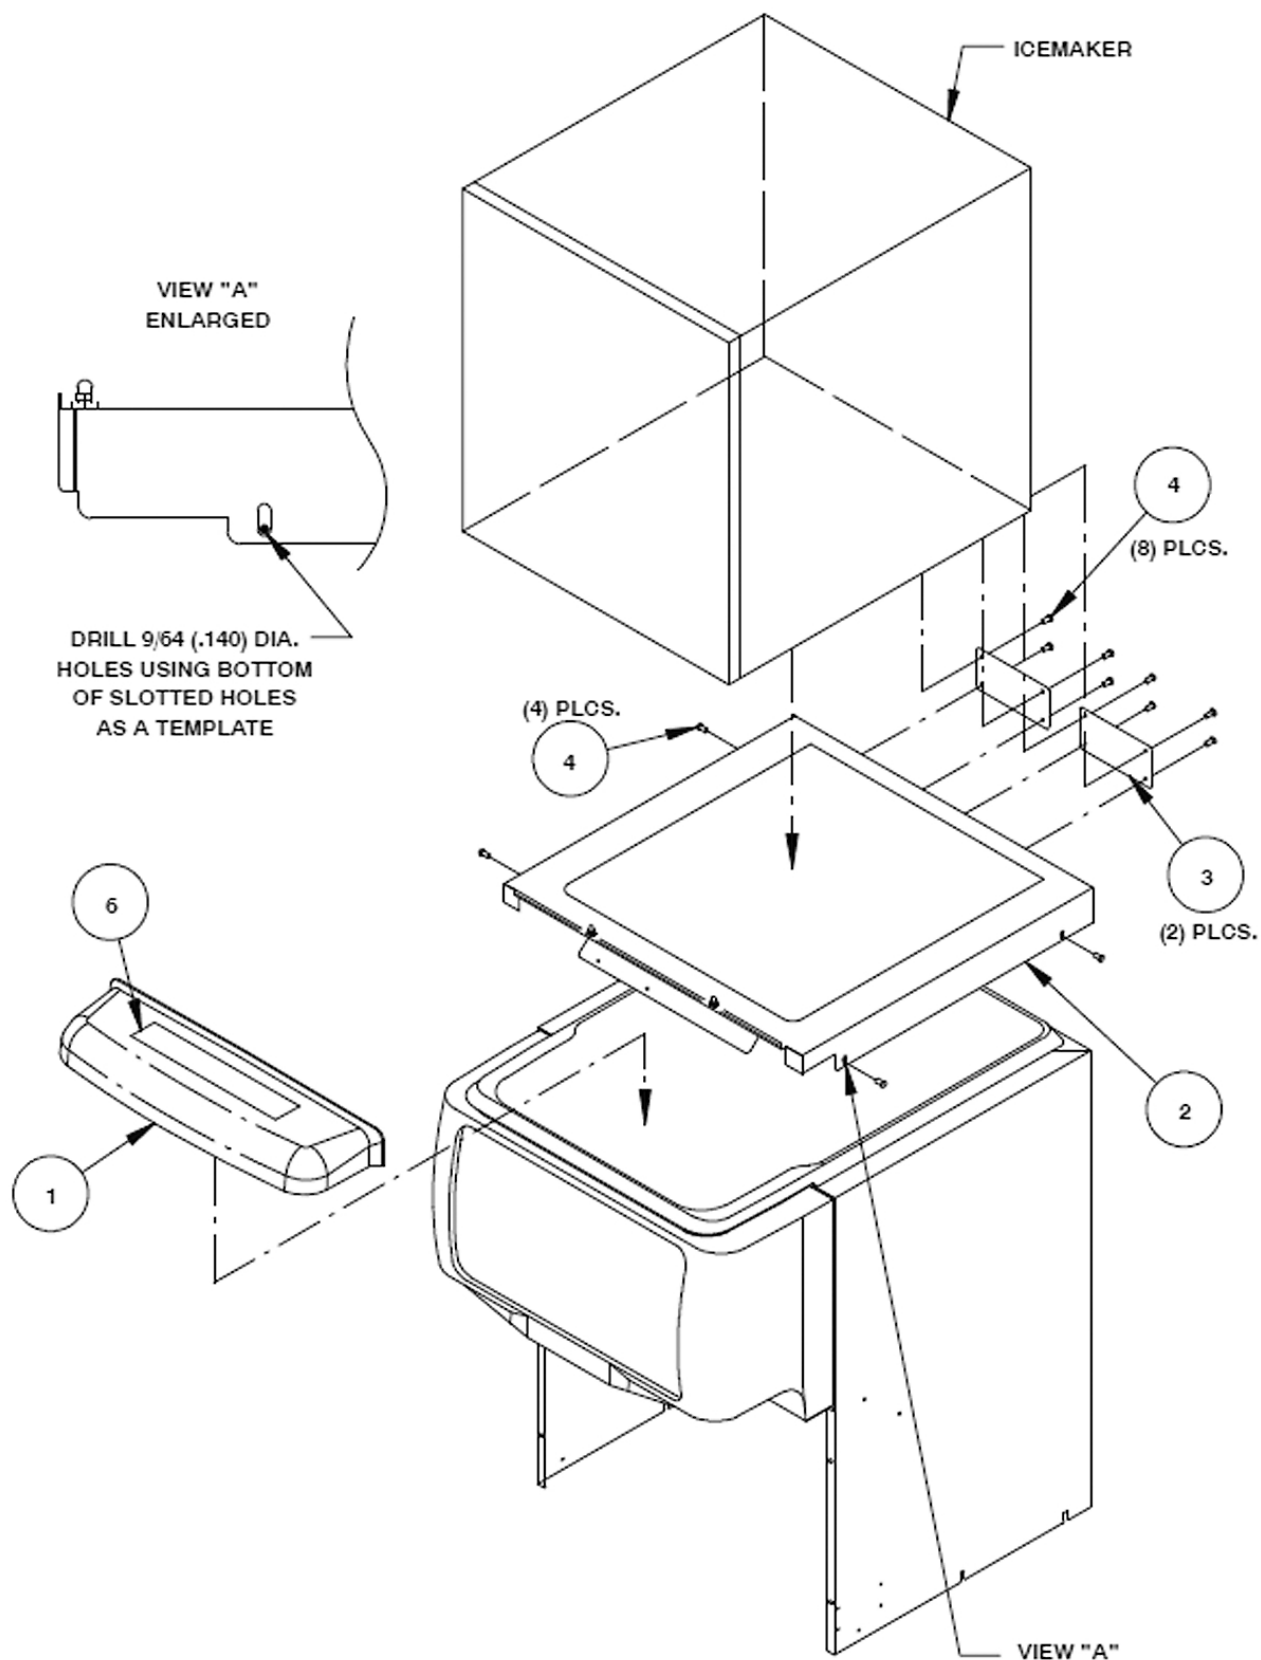
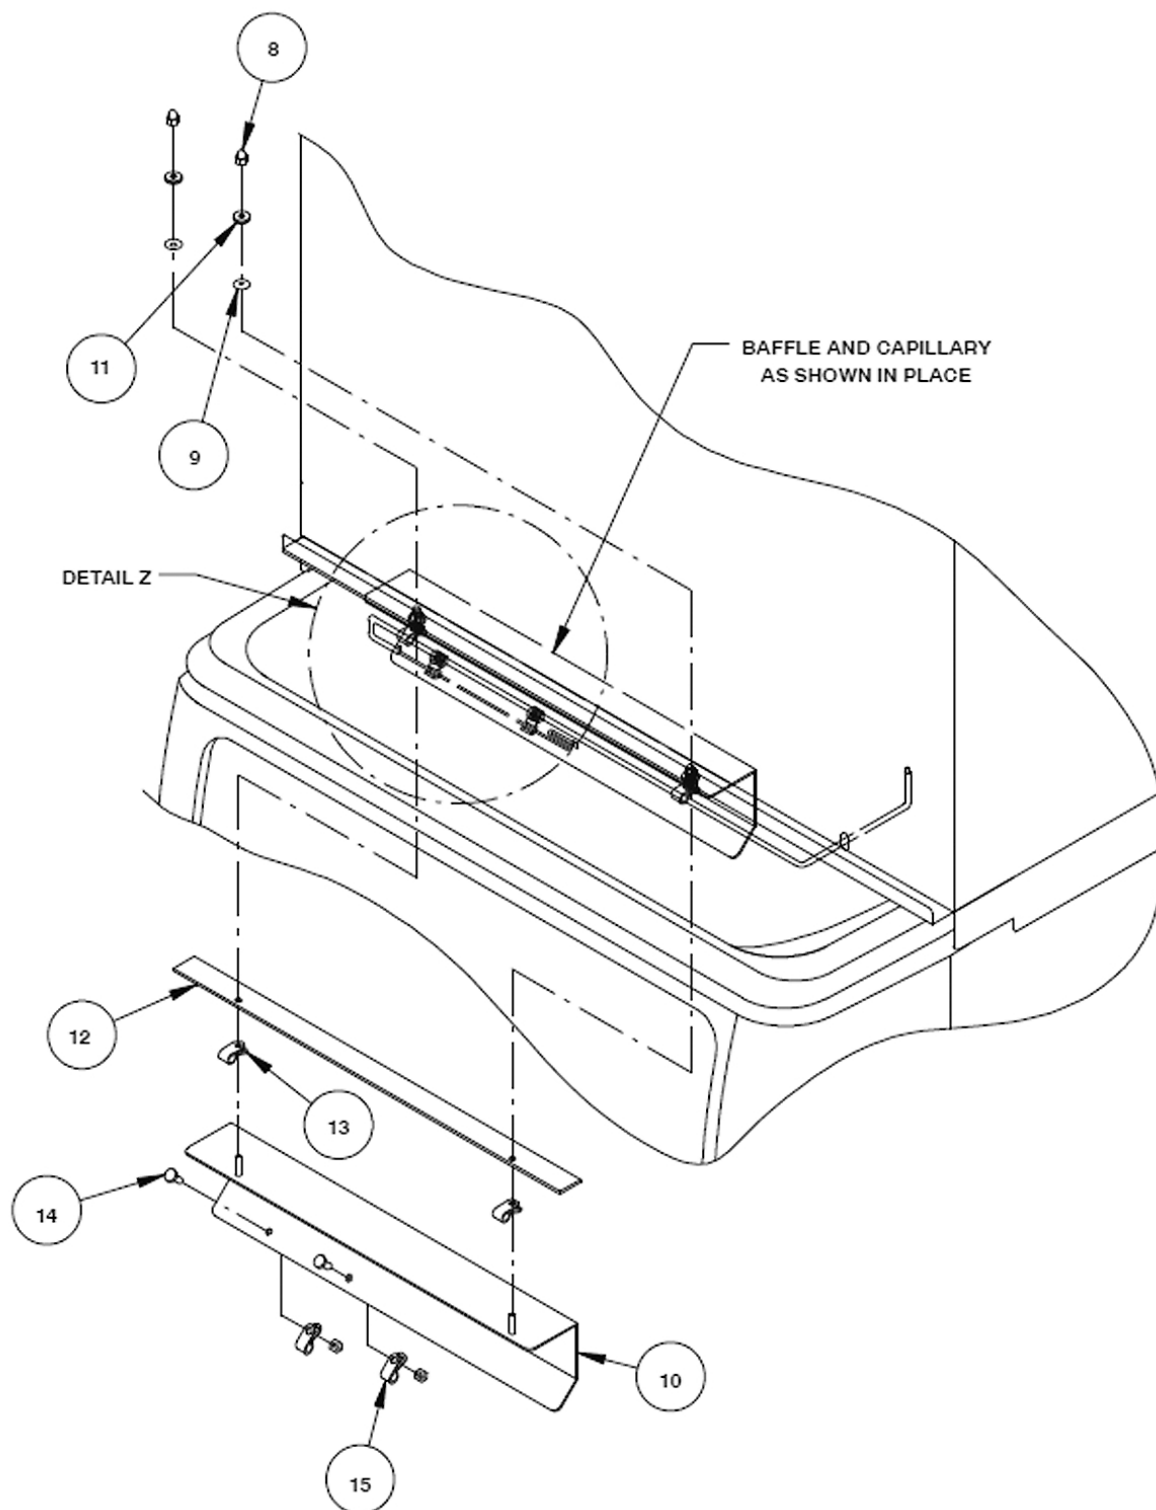
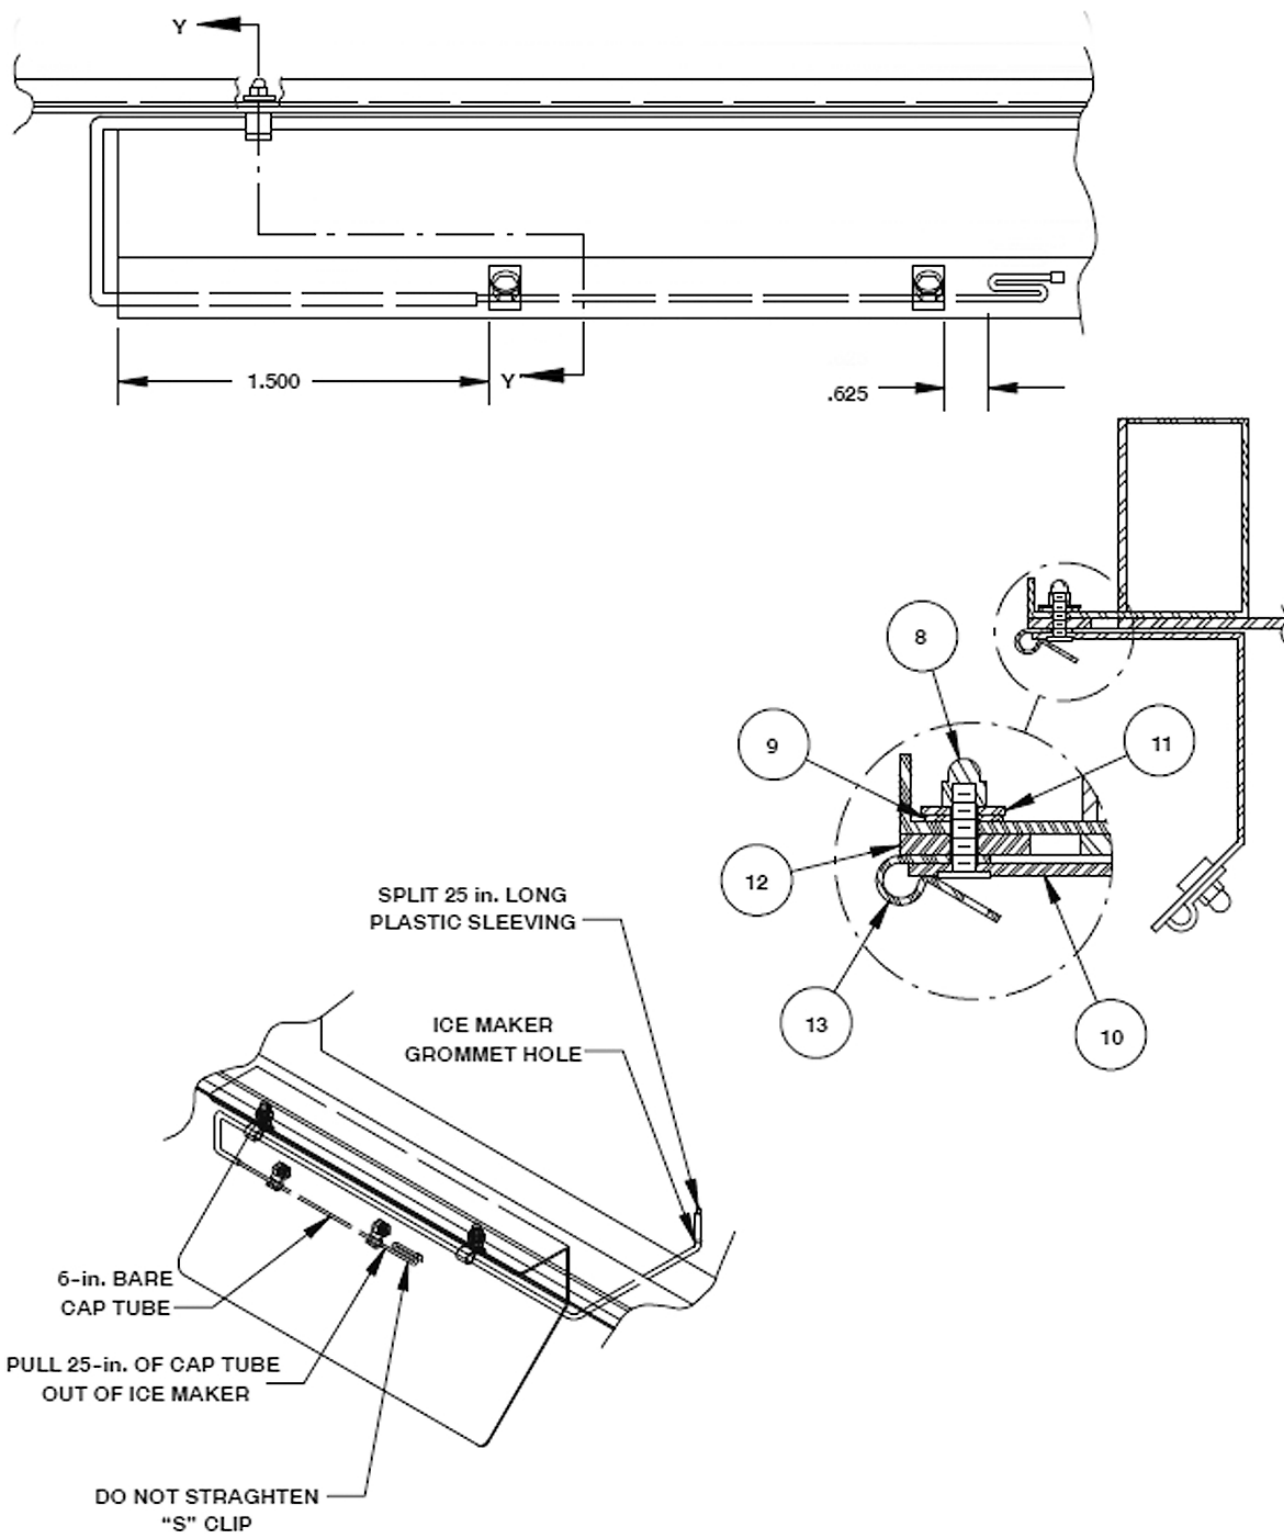

Figure 1. Dispenser Assembly
Figure 2. Baffle
Figure 3. Capillary Tube Location
3. Place two (2) sealing cap washers (item 9) over studs and two (2) nylon washers (item 11), then fasten in place with two (2) acorn nuts (item 8).
5. Using the slotted holes in the lid as a template, drill four (4) 0.140" diameter (9/64") holes at the bottom of the slots (see Detail A of Figure 1). **Use extreme care not to drill into the hopper.** Fasten the lid to the dispenser with four (4) #8 sheet metal screws, two on each side.
8. Mount BIN STAT KIT (item 17) as instructed except for the bin stat capillary tube mounting.
9. Pull 32" of capillary tube out of bottom of the ice maker. Slit and place vinyl tubing (item 16) over the capillary tube leaving 6" of bare capillary tube exposed between capillary "S" bend and vinyl tubing.
10. Assemble two (2) nylon clamps (item 15) to the back side of the ice baffle (item 10) with two (2) screws (item 14) and acorn nuts (item 8). *Do not overtighten.*
11. Route capillary tube around baffle as shown in Figure 2 and Figure 3.
12. Position two (2) nylon clamps (item 15) on studs of ice baffle (item 10) and two (2) nylon washers (item 11) on studs as shown.
14. Place two (2) sealing washers (item 9) over studs and fasten in place with four (2) acorn nuts (item 8).
15. Route and form the capillary as shown in Figure 2 and Figure 3. Tighten two (2) plastic clamps (8-32 X 3/8-in. screws) to hold capillary tube in place.